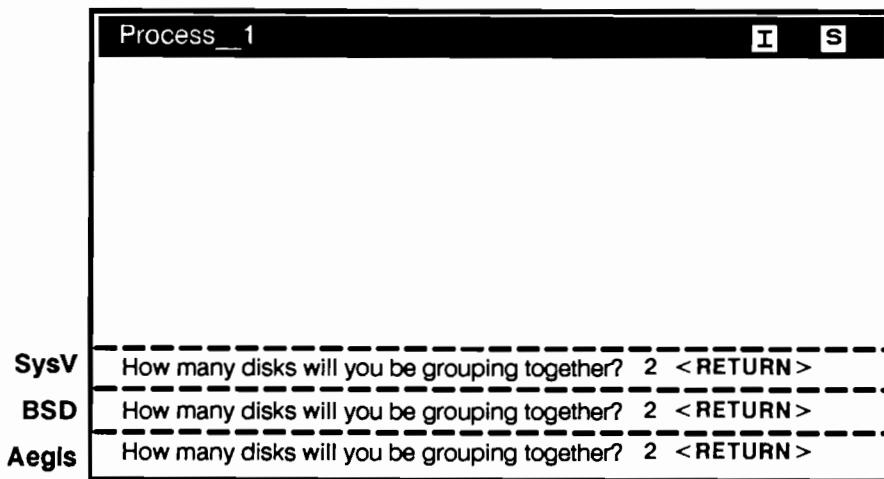

Figure 3-38. *invol* Prompt for Total Disks in Set
5. Next, **invol** prompts for the number of disks to include in the set as shown in Figure 3-38.